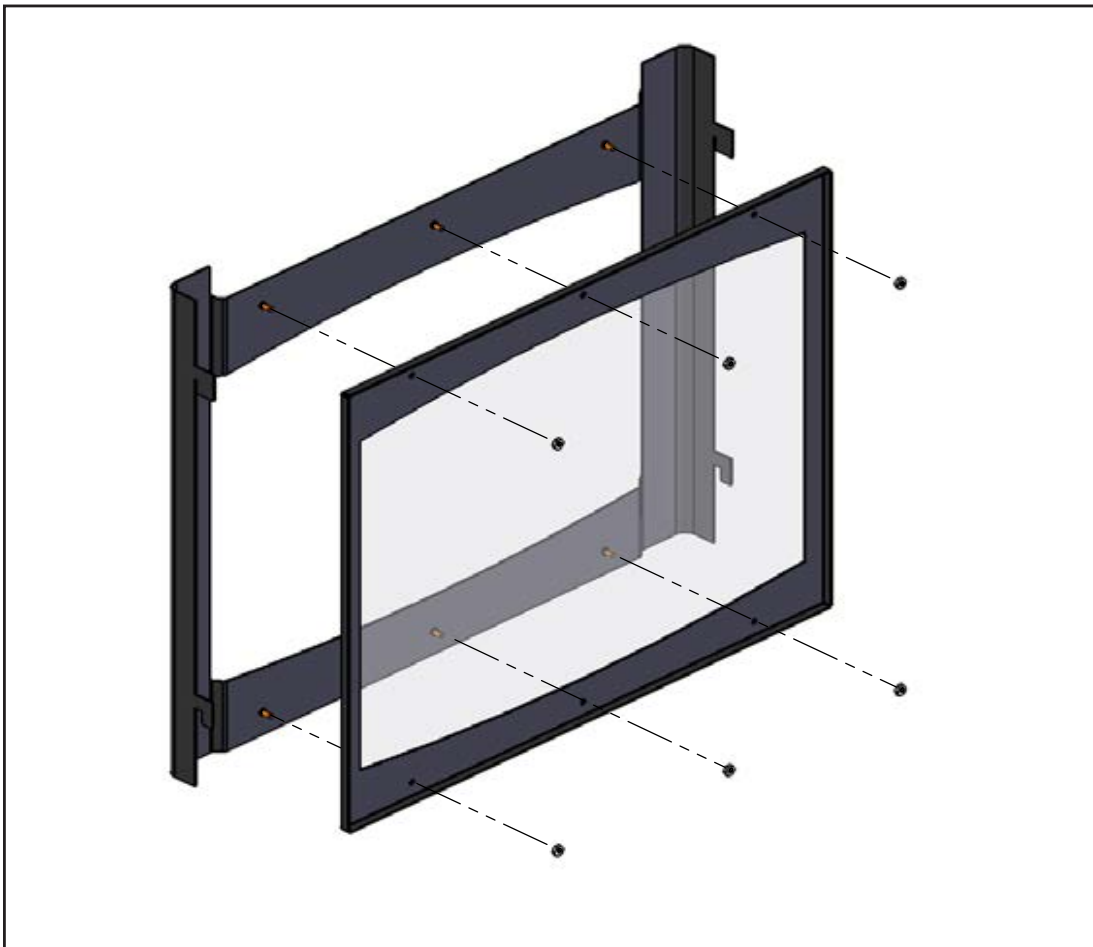

Figure 64: Safety Screen Removal
4. Slide each side brick panel into place along the sides of the firebox. The panels should rest flush with the back panel and the sides of the firebox (refer to Figure 64).